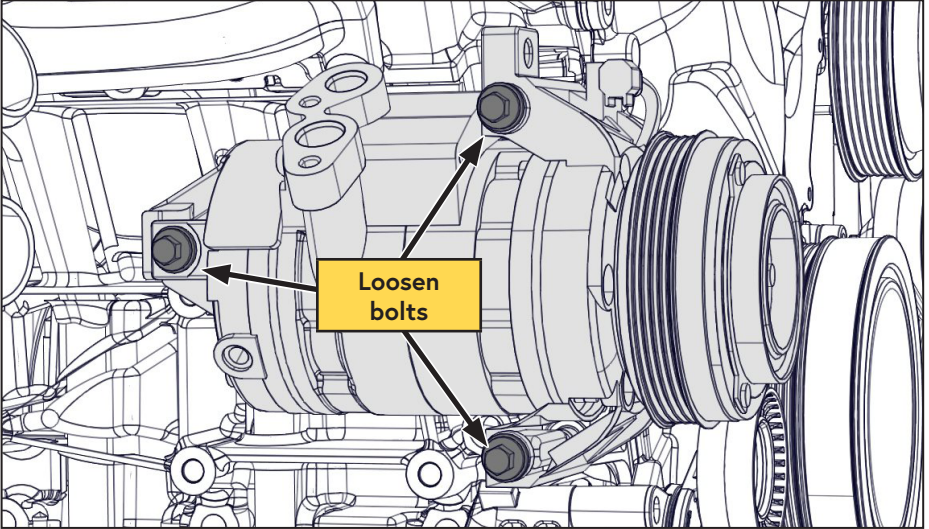

Figure 19 — A/C compressor bolts
- Loosen the 3 × M8 A/C compressor bolts until the threads are still engaged but only enough to support the A/C compressor (Figure 19).